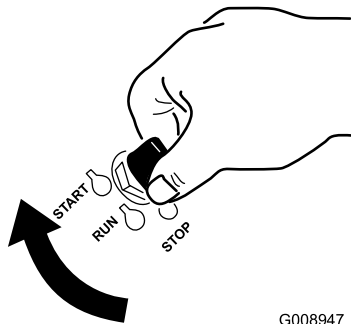

Figure 15
1. Turn the ignition key to the START position (Figure 15).